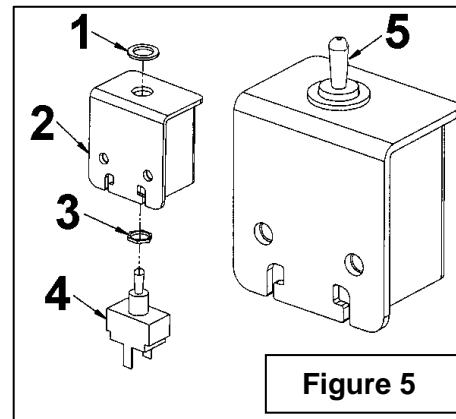

Figure 5
1. **Figure 5:** Insert the switch (item 4) in the switchbox (item 2) and secure together with the two nuts (items 1-3) supplied with the switch. Screw the rubber cap (item 5) on the switch.